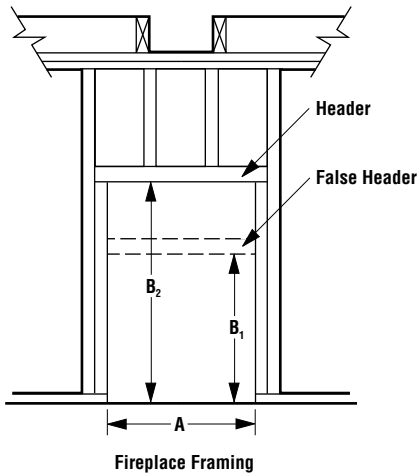

Figure 12
**Step 3.** Refer to fireplace drawings and specifications on pages 6 and 7 for framing dimensions and details. Frame appliance enclosure as illustrated in Figures 12 through 15 on page 7.